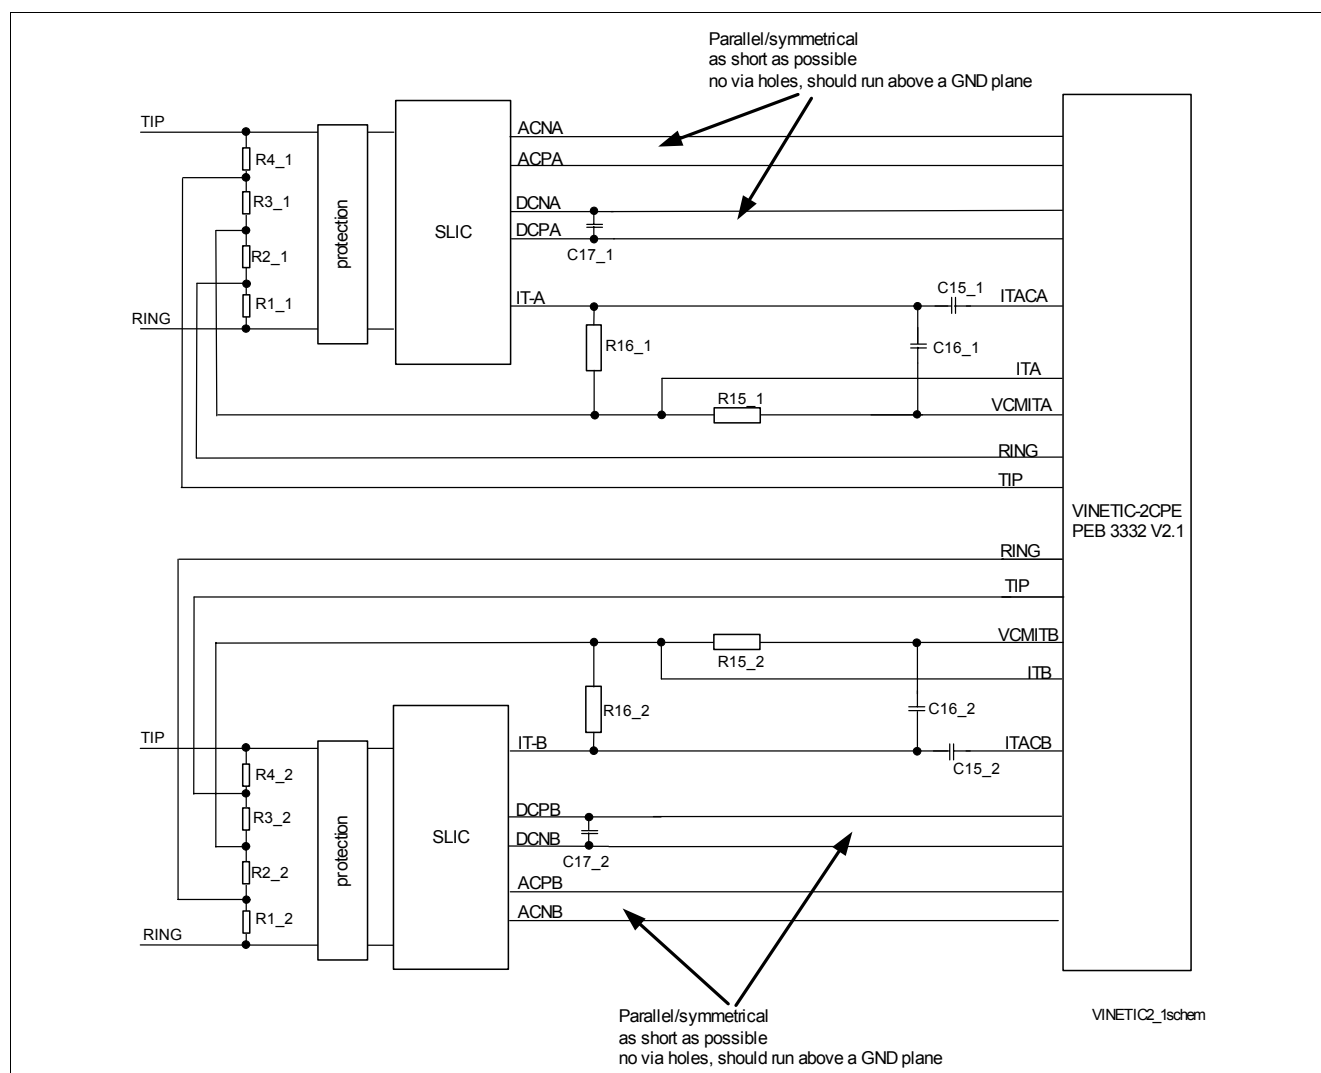

Figure 25 Connections between the VINETIC®-2CPE/-1CPE and the SLIC-DC with External Components
- The External Noise Filter capacitor in DCP/DCN (C17_x in Figure 25) is placed close to the SLIC with short traces.